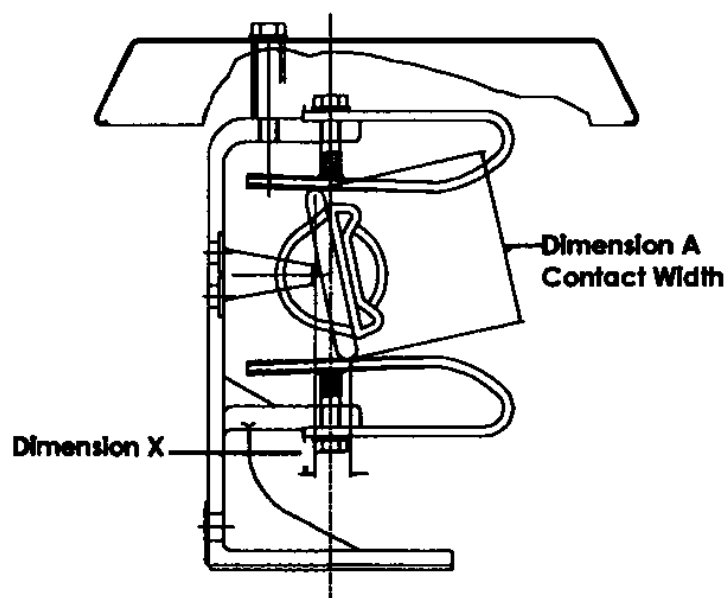

Figure 5
The blades can be at a slight angle in the CLOSED position (Fig. 5). An allowable contact angle of 4 degrees permits an (X) dimension of 1/16-inch for each 1-inch of contact width.
Figure 5 shows the top of the blade contact leaning to the left. The top of the blade contact can also lean to the right as long as it does not exceed the 4-degree angle allowance. Both situations are common on a three-pole switch because of the many variables, tolerances, and free play or clearance allotted in the pin connections of all the switches and control parts.